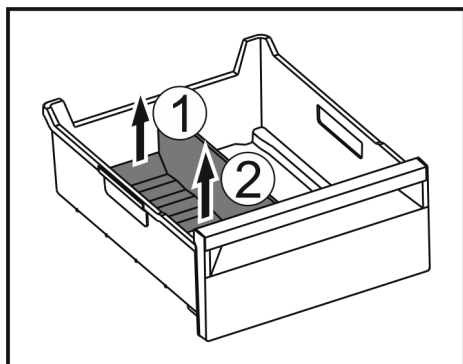

Fig. 144
- Lift the rear part of the ice compartment divider. Fig. 144 (1)
- Remove the ice compartment divider upwards. Fig. 144 (2)